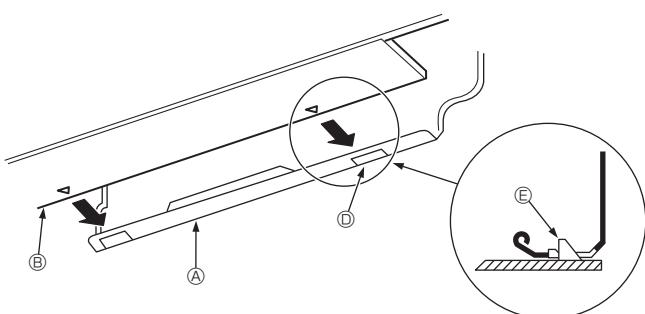

Fig. 3-24
- While inserting the water piping and drain hose into the wall penetration hole (penetration sleeve), hang the top of the indoor unit to the mount board ①.
- Fasten by pushing the bottom part of the indoor unit onto the mount board ①. (Fig. 3-24)